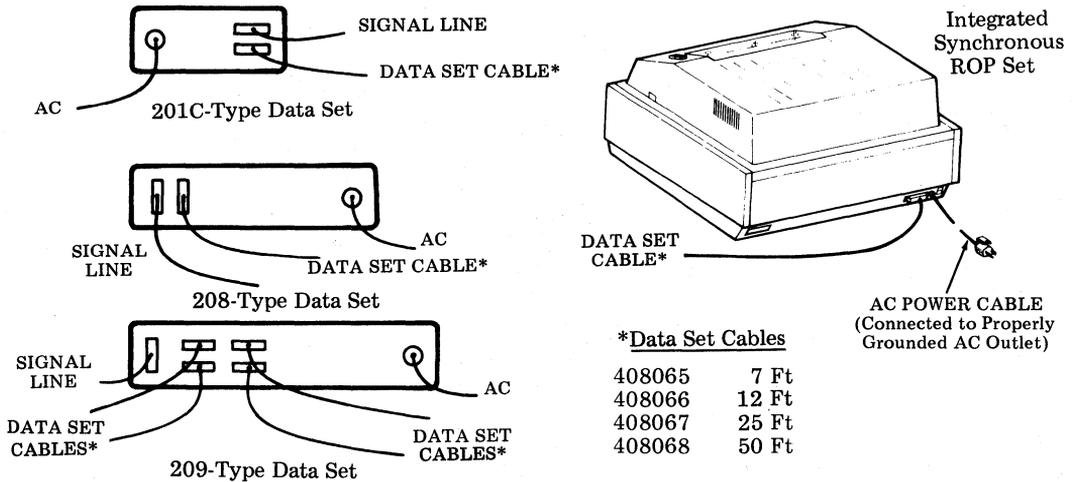

Fig. 34—Data Set Connection — Tabletop Cabinet
- 7.05 Data Set Connection: After the data set has been optioned, connect to the Integrated ROP Set (Fig. 34, 35, 36).